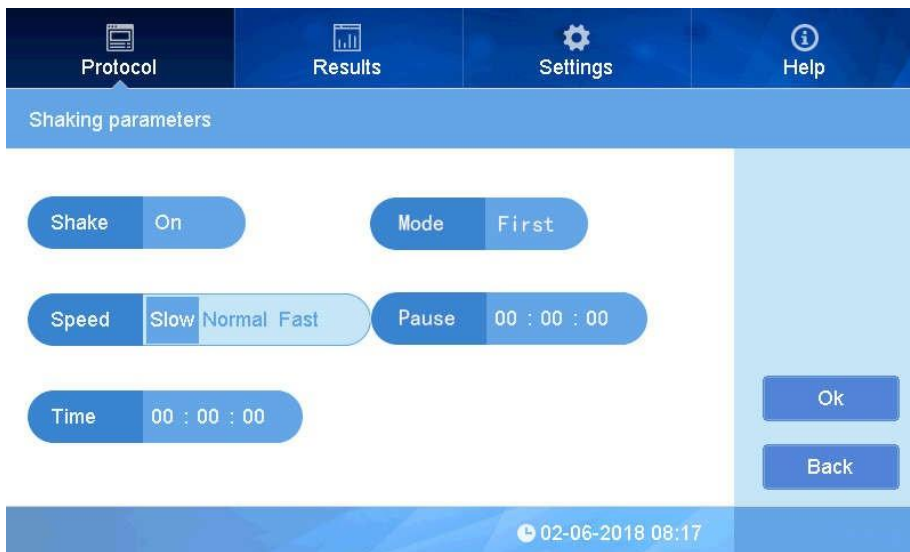

Fig.24
- Click button right beside “Speed” to set speed, Slow, Normal, Fast (Fig 24).